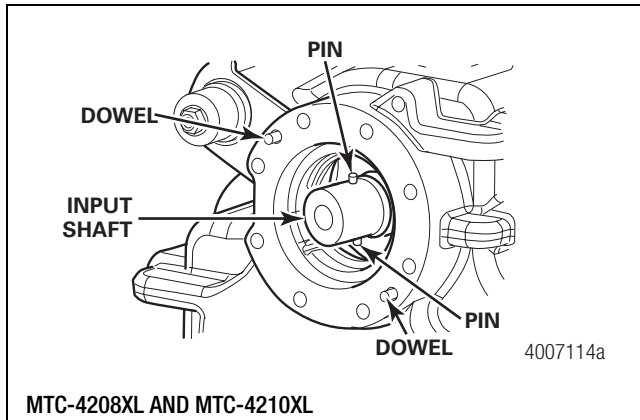

Figure 6.38
1. Verify that the drive pins are installed into the input shaft. Figure 6.38.